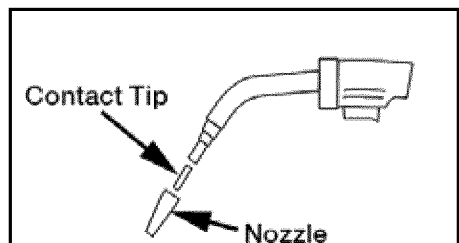

Fig. 3
2.1 Remove the nozzle and contact tip from the end of the torch assembly. (Fig. 3)